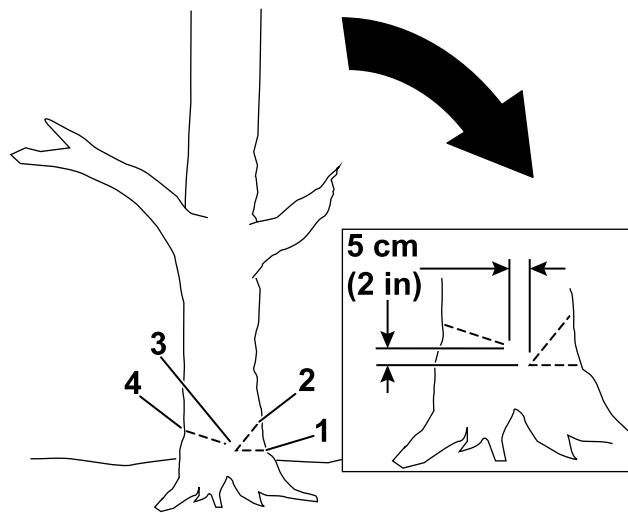

Figure 15
5. Make a second cut to form a notch, starting the cut at least 5 cm (2 inches) above and away from the first cut (Figure 15).
6. Make the back cut from the opposite side of the notch and about 5 cm (2 inches) higher than the bottom of the notch as shown in Figure 15.
Important: Stop the third cut 2.5 to 5.0 cm (1 to 2 inches) from the notch to form a hinge between the cuts (Figure 15), which keeps the tree from falling in the wrong direction or twisting as it falls.
Note: As the back cut nears the hinge (Figure 15), the tree should begin to fall.
4. Make the first cut a third of the way through the tree diameter on the side where you want the tree to fall (Figure 15).